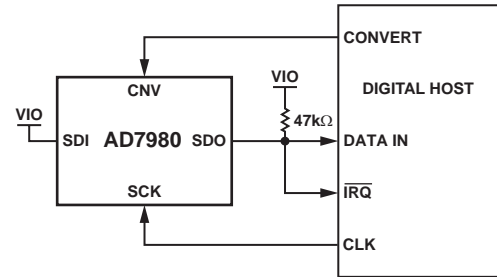
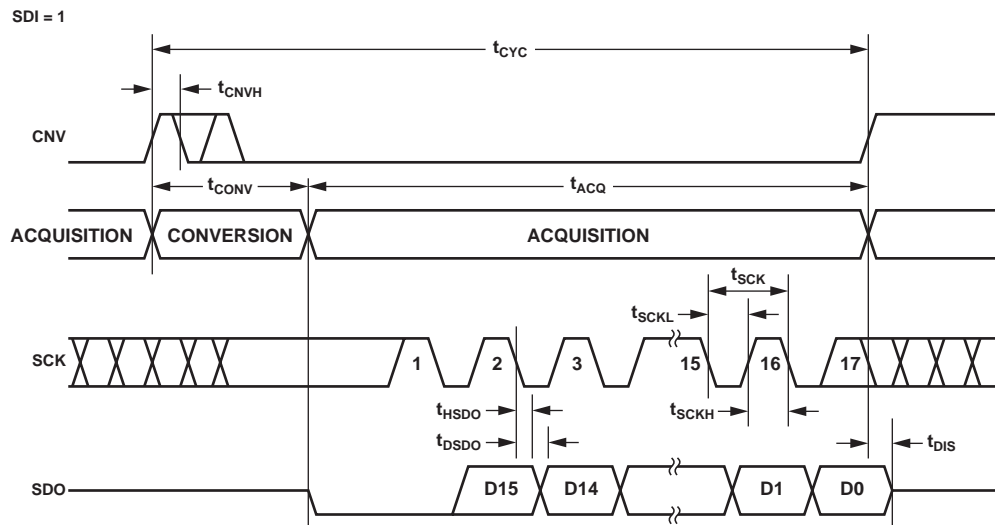
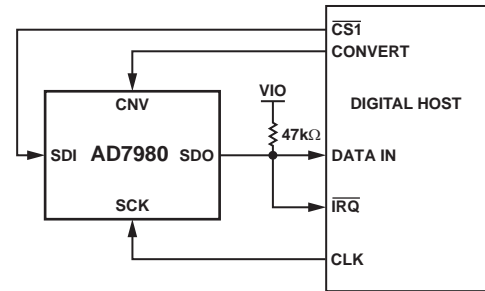
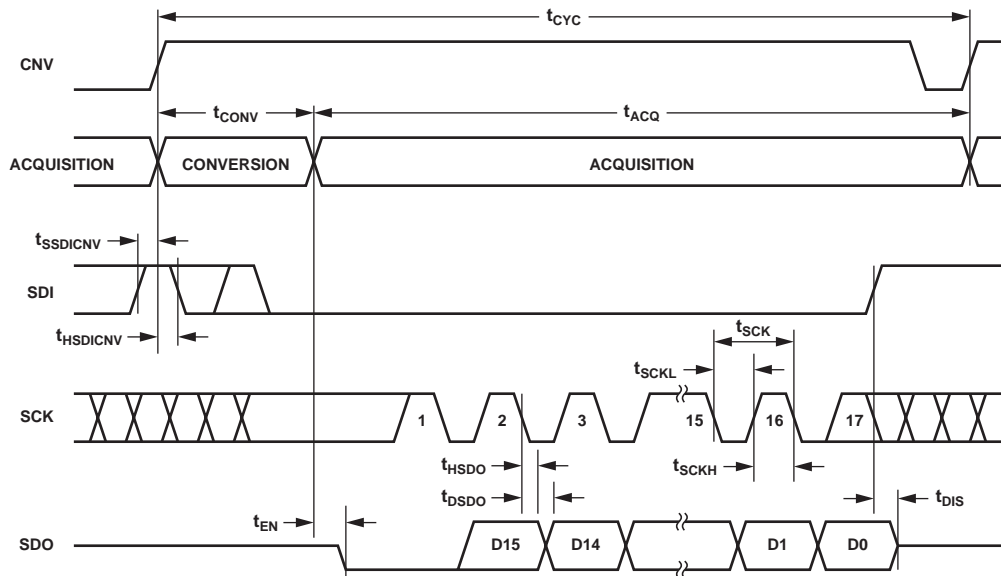

Figure 17. $\overline{\text{CS}}$ Mode 3-Wire with BUSY Indicator Connection Diagram (SDI High)
Figure 18. $\overline{\text{CS}}$ Mode 3-Wire with BUSY Indicator Serial Interface Timing (SDI High)
Figure 21. \overline{CS} Mode 4-Wire with BUSY Indicator Connection Diagram
Figure 22. \overline{CS} Mode 4-Wire with BUSY Indicator Serial Interface Timing
- In the $\overline{\text{CS}}$ mode, if CNV or SDI is low when the ADC conversion ends (Figure 18 and Figure 22).
The connection diagram is shown in Figure 17 and the corresponding timing is given in Figure 18.
The connection diagram is shown in Figure 21 and the corresponding timing is given in Figure 22.